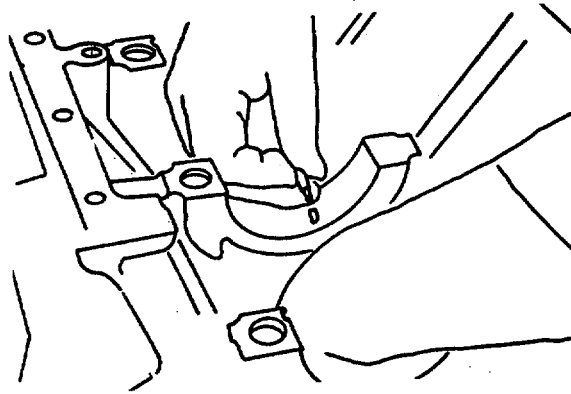

FIGURE 4-70. Installing Piston Cooling Nozzles
- b. Install the piston cooling nozzles even with or below the bearing saddle surface as shown in FIGURE 4-70.